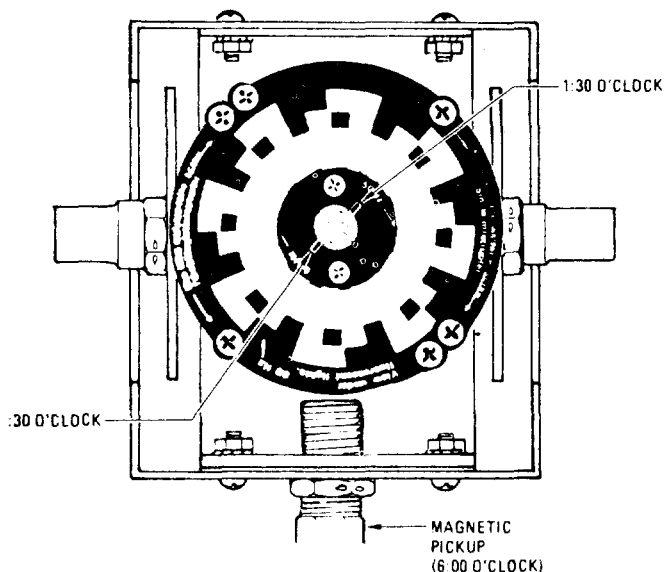

Figure 3-4. Logo at 1:30 and 7:30 O'clock
- (6) Set Tester MOTOR switch to ON and illuminate Tester rotor with the Strobex. Verify that the stem of the h in the logo appears stopped in two positions.
- (7) Note the clock angle of the stem of the h in the logo. Push and hold VERIFY TUNE button and adjust RPM TUNE dial to return images to clock angle observed before button was pushed. Release VERIFY TUNE button and observe new clock angle. Repeat until there is no change whether VERIFY TUNE button is pushed or released. When the Balancer is properly tuned, the stem of the h in the logo at the center of the disc appears stopped and double at 1:30 and 7:30 O'clock (fig. 3-4).
- (8) Set Tester CAM RATE (RPM) and Balancer RPM TUNE to 900 RPM RANGE to X1. Observe the same results as in step (7).